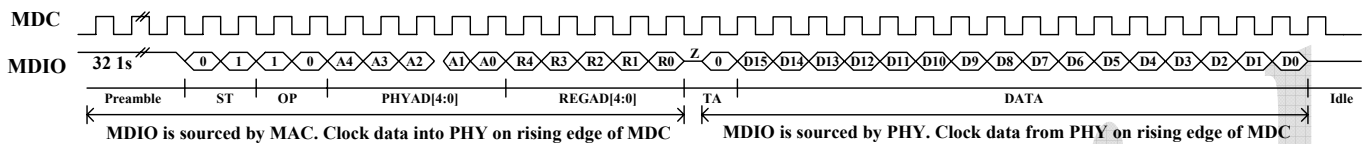
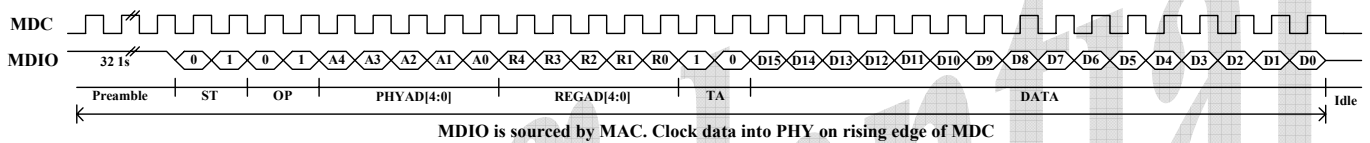

Figure 4. Read Cycle
Figure 5. Write Cycle
During a hardware reset, the logic levels of pins 34/24 and 35/25 are latched into the RTL8201E(L) to be set as the PHY address for management communication via the serial interface. The read and write frame structure for the management interface is illustrated in Figure 4 and Figure 5.